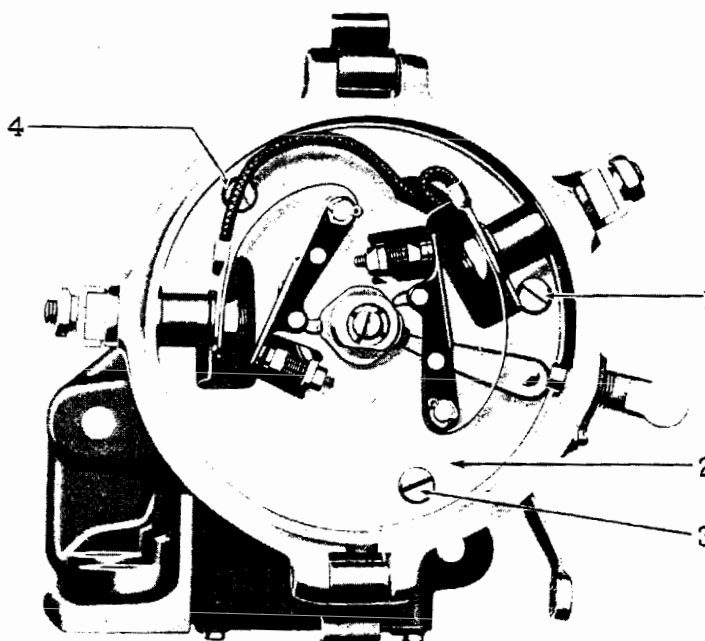

Fig. 111
The plate (2) Fig. 111 which carries the breaker mechanism is held in position by three screws, (1), (3) and (4), Fig. 111. The holes for the screws (3) and (4) are elongated allowing the plate to be shifted slightly with screw (1) as a pivot. Shifting the plate changes the relation of the opening and closing of the two breakers.